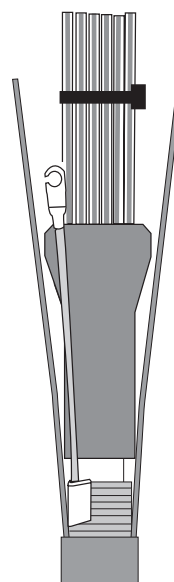

Figure 4
13. Begin shrinking the tube with the CV1981 hot-air gun on setting #6. Start at the end of the tube closest to the cable and work towards the transportation tubes. The seal is complete when the tube is completely shrunk around the transportation tubes. (Fig.4)